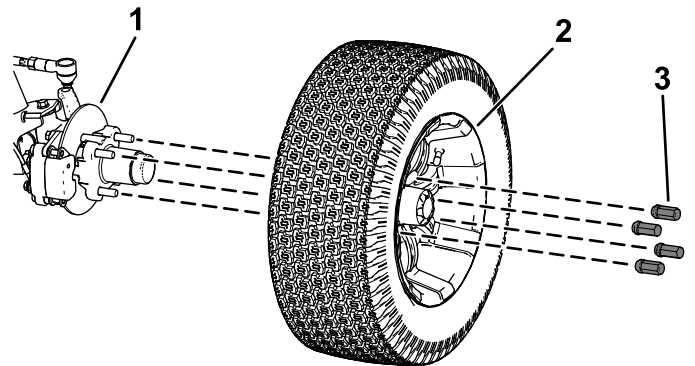

Figure 34
2. Remove the 4 lug nuts that secure the wheel to the hub (Figure 34).
4. Align the holes in the wheel to the studs of the hub and assemble the wheel to the hub with the valve stem outward (Figure 34).
5. Secure the wheel to the hub using the lug nuts (Figure 34).